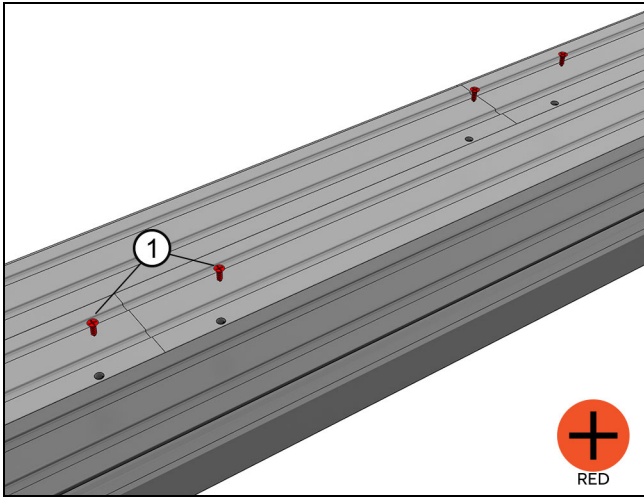

Figure 38
9. Insert #8 x 1/2" (13) screws and tighten. See Figure 38.